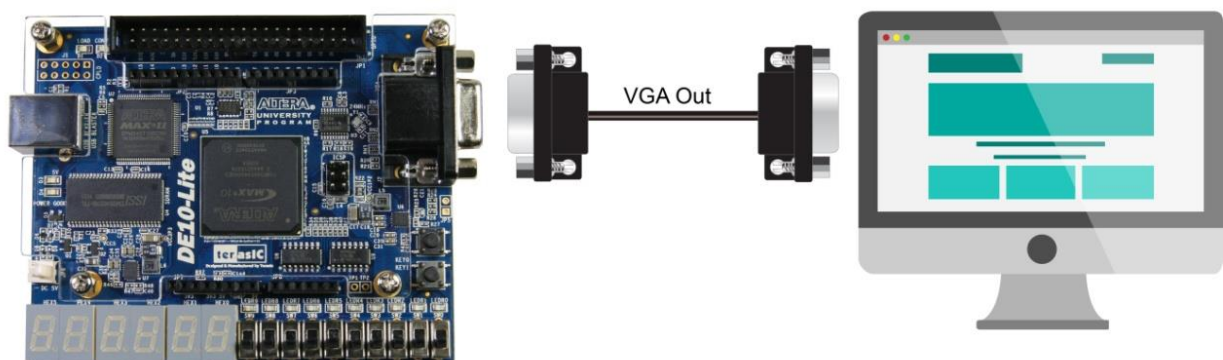

Figure 5-7 The setup for the VGA Pattern demonstration
- **Figure 5-7** illustrates the setup for this demonstration.